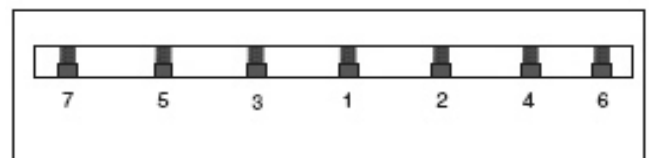

Figure 42. Gib tightening sequence.
8. Rotate the cutterhead to the first knife you started with. Slightly tighten all the gib bolts by following the tightening sequence show in **Figure 42**. Repeat this step on the rest of the knives, then final tighten each gib bolt.